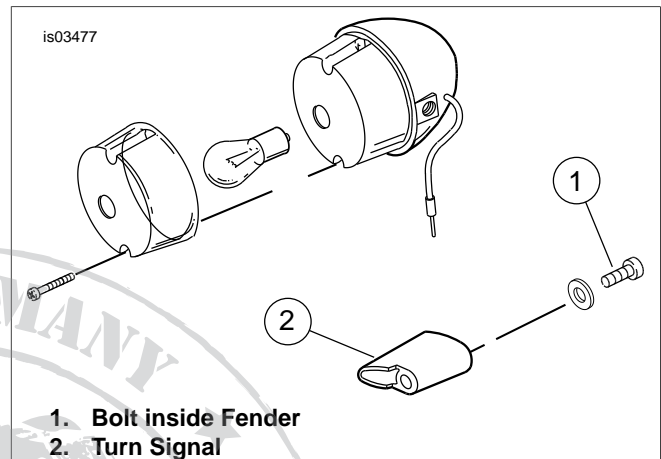

Figure 3. Dyna Rear Turn Signal (Typical Airfoil Style Support)
- See Figure 3. Remove the existing lamp support by removing the bolt and washer (if present) inside rear fender, then remove the lamp housing from the support. Save hardware for installation. Discard support.